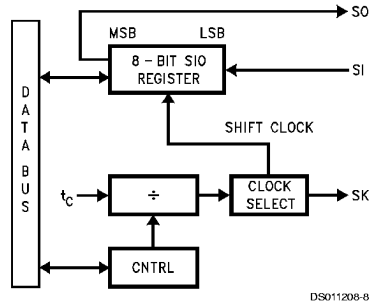

FIGURE 6. MICROWIRE/PLUS Block Diagram
input (SI), serial data output (SO) and serial shift clock (SK). Figure 6 shows the block diagram of the MICROWIRE/PLUS interface.